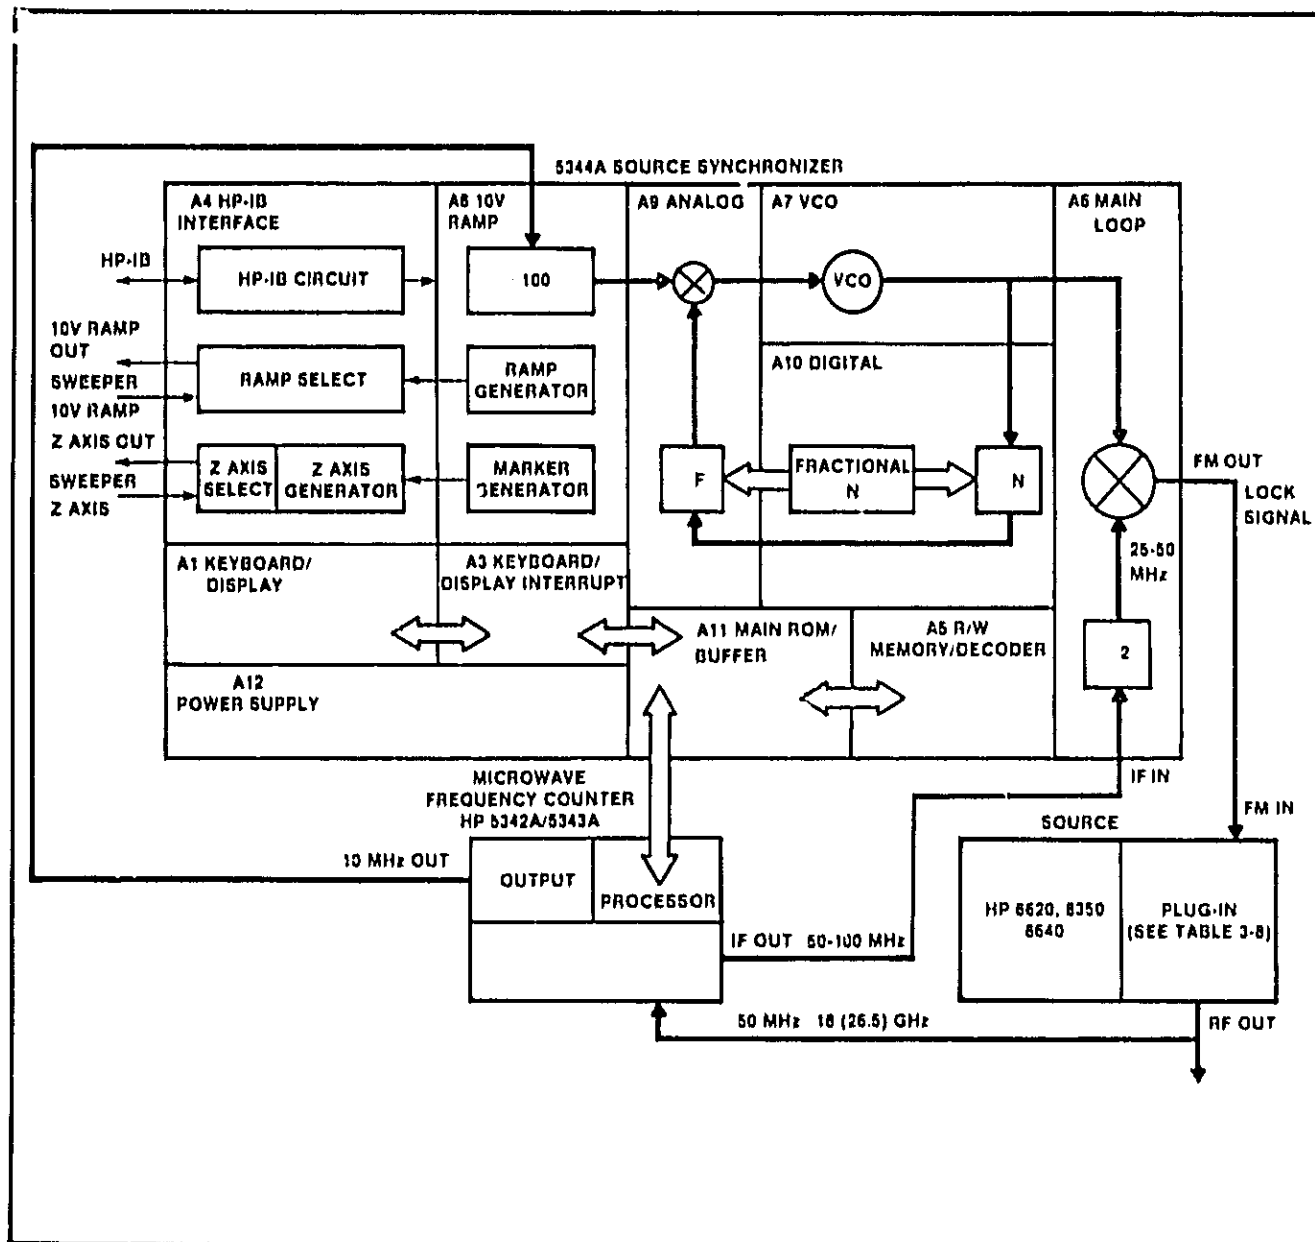

Figure 8-9. 5344S Functional Block Diagram
8-32. The IF output of the 5342A (or 5343A) is from 50 to 100 MHz. Since many different values of input frequency may cause an IF in this range, the 5344A calculates what the IF should be (based on the signal source frequency commanded), as well as which harmonic number (N) and synthesizer frequency will be used within the 5342A (or 5343A) to produce this IF. Refer to the theory of operation in the 5342A (or 5343A) manual for a description of harmonic heterodyne techniques. The IF output of the counter is a down-converted replica of the signal source output. This IF is sent to the 5344A where it is divided by 2 and sent to the phase comparator as shown in the functional block diagram, Figure 8-9. The comparator is operating at frequencies between 25 and 50 MHz.